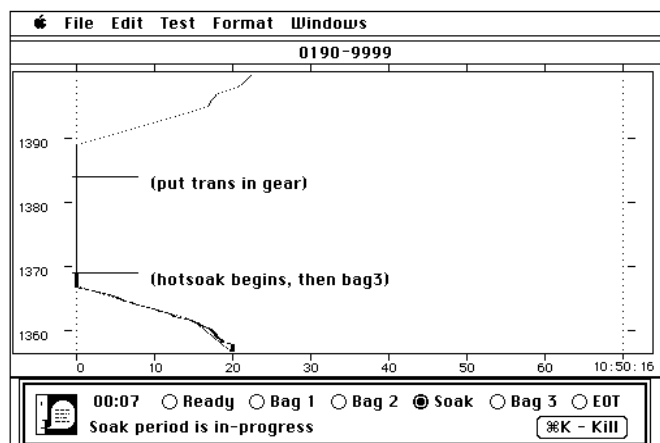

Figure 19
- 317 Close the vehicle hood and verify that the power to the fan and CVS blower are turned off. The VDA also monitors the hot soak time on its screen. See Figure 19. The total soak time must be 10 minutes, ± 1 minute.